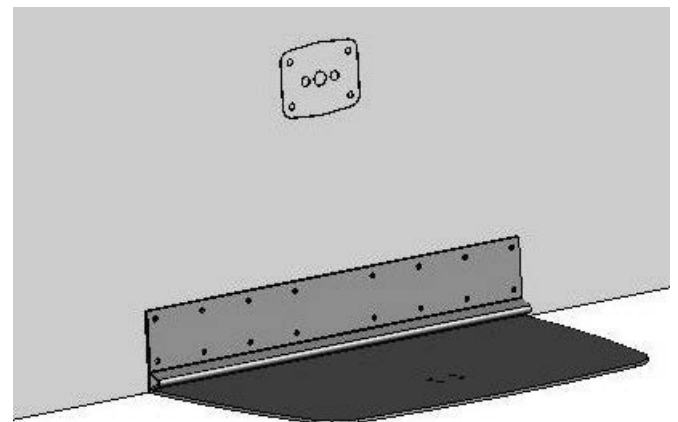

**Figure 3**
1. Each trim tab is installed as an extension of the hull. To achieve this, position the upper mount of each actuator with the trim tab on the same plane as the hull bottom. Support the trim tab assembly from below in the fully retracted position. Attach an actuator to the trim plane using the supplied 5/16-18 x 1 ¼" hex head machine screws. Tip back the upper mount such that the wires and the hydraulic ports face away from the transom. Position the assembly template over the end of the upper mount as shown in *Figure 3*. The radius on the top of the uprights should nest fully into the assembly template. This will temporarily locate the position of the upper mount.